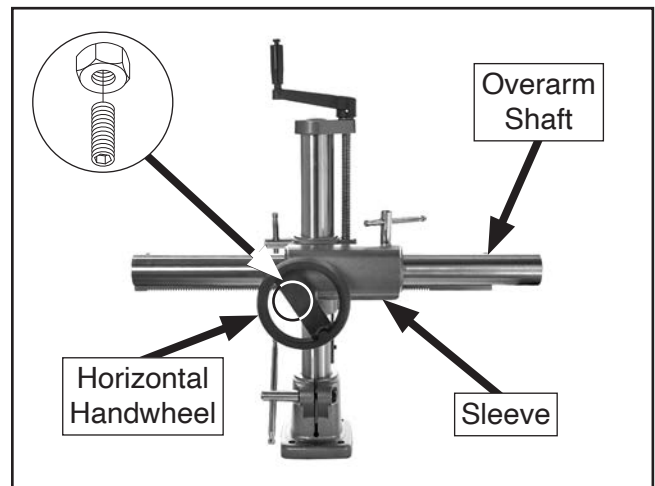

Figure 8. Overarm shaft installed in vertical column.
2. Loosen hex nut and set screw under horizontal handwheel shown in **Figure 8**, then remove horizontal handwheel.
3. Feed overarm shaft into sleeve of vertical column (see **Figure 8**). Re-install handwheel and engage gears with overarm shaft teeth. Tighten set screw and hex nut just enough to secure handwheel.